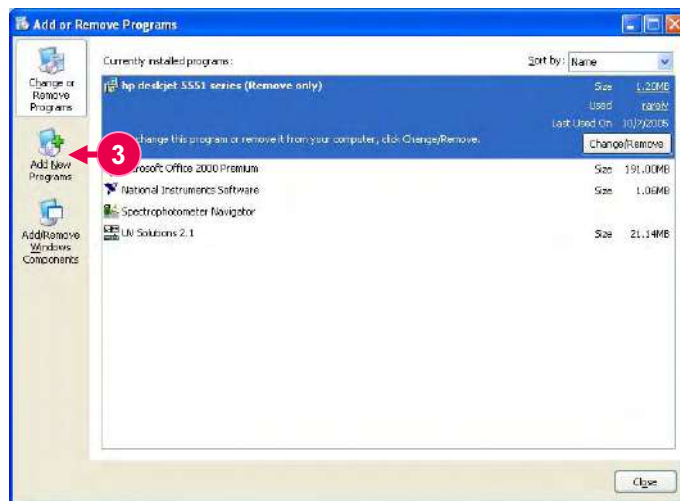

Fig. 1-3
- A window as shown in Fig. 1-3 will appear.